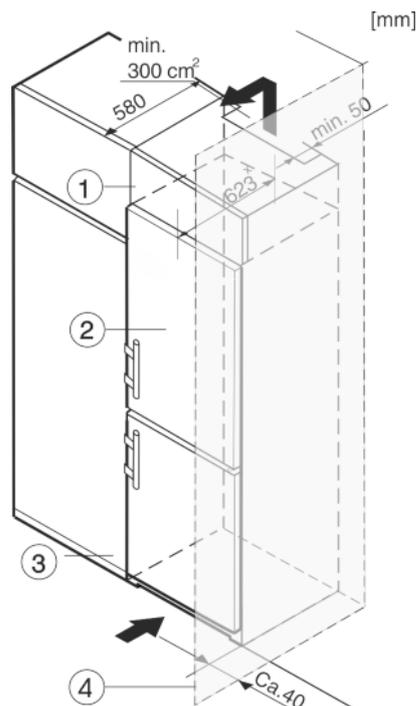

Fig. 12
The appliance can be inserted into a row of kitchen units. To match the appliance *Fig. 12 (2)* to the height of the row of units, a suitable stack cabinet *Fig. 12 (1)* can be fitted above the appliance.
When retrofitting with kitchen cabinets the appliance can be installed directly next to the cabinet *Fig. 12 (3)*. So that the doors can be opened fully the appliance must be stick out at least 65 mmx from the front of the cabinet. The appliance may protrude further depending on the depth of the kitchen cabinets and if wall spacers are used.
If the appliance is installed with the hinges next to a wall *Fig. 12 (4)*, the distance between appliance and wall has to be at least 40 mm. This corresponds to the projection of the handle when the door is open.